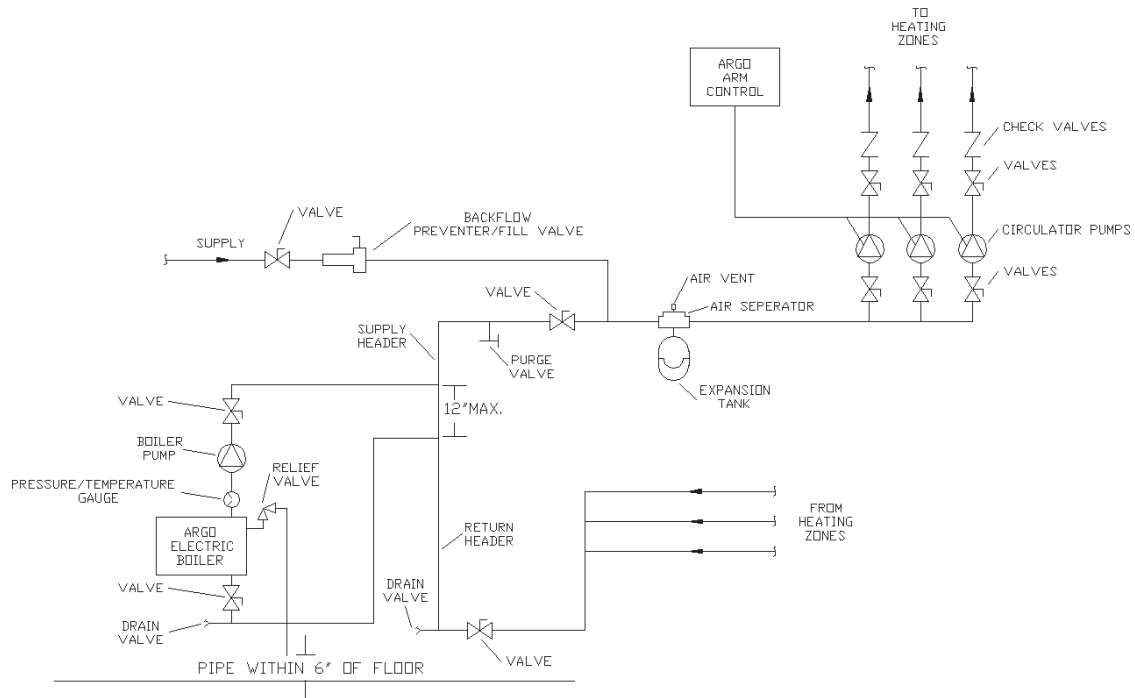

FIGURE 2
System should be designed as primary/secondary piping and to operate with a maximum output temperature of 180° F or lower and a temperature rise across the unit of 20° F or lower. Refer to tables below and Figures 2 & 3.
4. Suggested plumbing arrangements are illustrated in Figures 2 & 3. The inlet or return pipe is located at
6. Gate valves should be installed at the locations shown in Figures 2 & 3, so that any boiler servicing requiring removal of water can be done quickly and easily. Not illustrated but also highly recommended is the installation of air vents at the high points of the hydronic system. These devices will reduce initial start up time and help avoid element burnout during the entire life of the heating system.